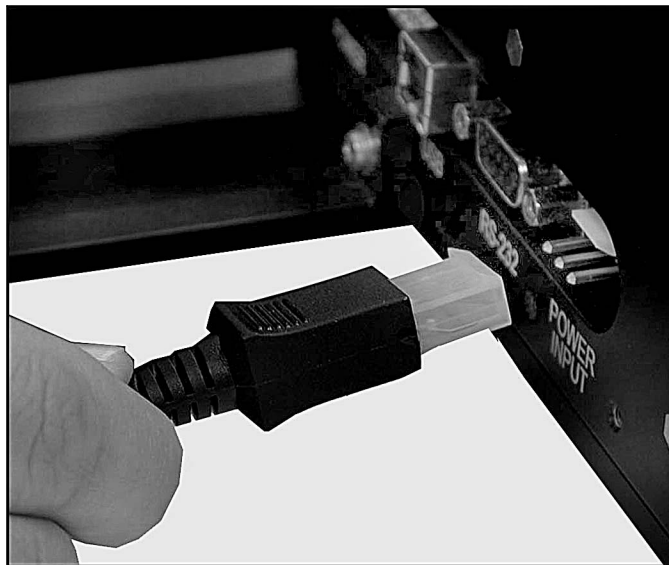

Figure 9: Plug orientation
3. Plug the power cord into the power outlet in the side of the housing assembly. Orient the plug as shown in figure 9. Plug the power adapter into a wall outlet.